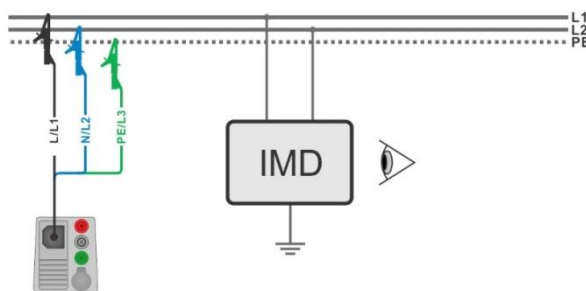

Figure 7.116: AUTO IT measurement
- › Connect 3-wire test lead to the object under test, see **Figure 7.116**.